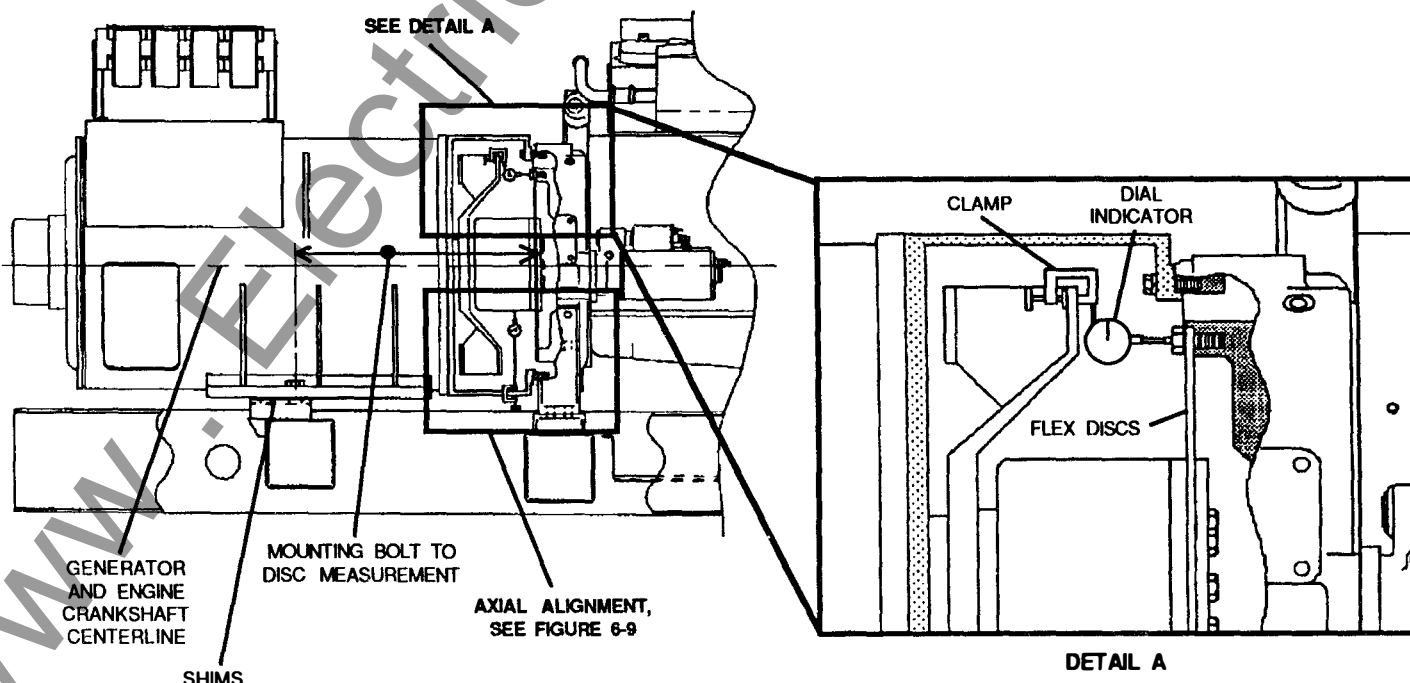

FIGURE 6-7. ANGULAR ALIGNMENT MEASUREMENT
Fasten a dial indicator to either the generator shaft or the cooling fan with the sensing point resting on the cap screw head or the flat surface of the drive disc at the bolt circle diameter, see Figure 6-7. Bar the engine over in a
2. Measure the distance from the generator side of the flex discs to the center of the generator mounting bolt, refer to Figure 6-7. (For example; a HC6 Frame's distance is 28.4".)